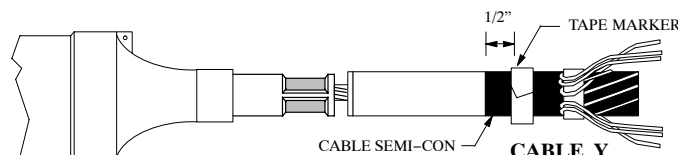

FIGURE 3
9. Place a tape marker on cable "Y" semi-con, 1/2" from the end of the cable semi-con. See Figure 3.